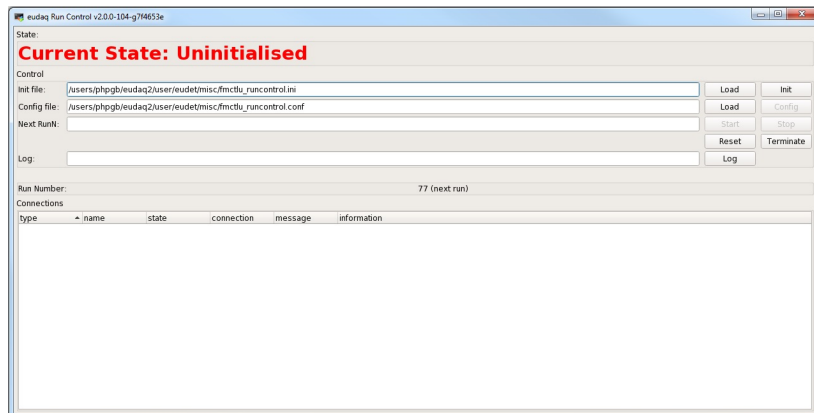

Figure 8.1: Main user interface of the EUDAQ framework.
The parameters must be included in the INI or CONF file passed to the main window (see fig.8.1).
**CONF\_CLOCK** [boolean, true] If true, the clock chip Si5345 will be re-configured when the INIT button is pressed (see figure fig.8.1). The chip is configured via  $I^2C$  interface using a specific text file (see next parameter). After a power cycle, the chip is its default state and must be reconfigured to operate the TLU correctly1.